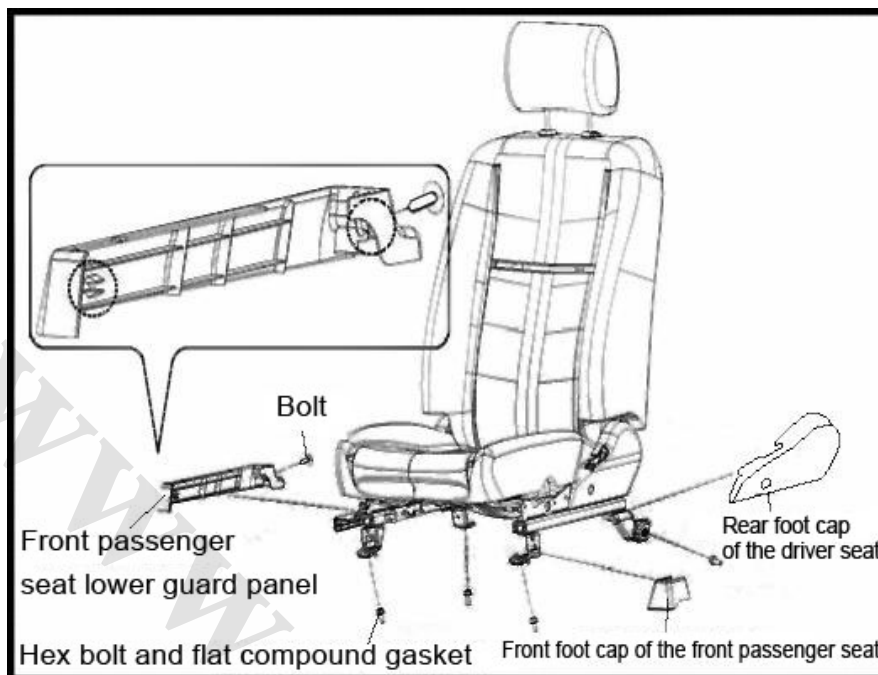

Fig. 7-8
1. The assembly structure as shown in Fig. 7-8.